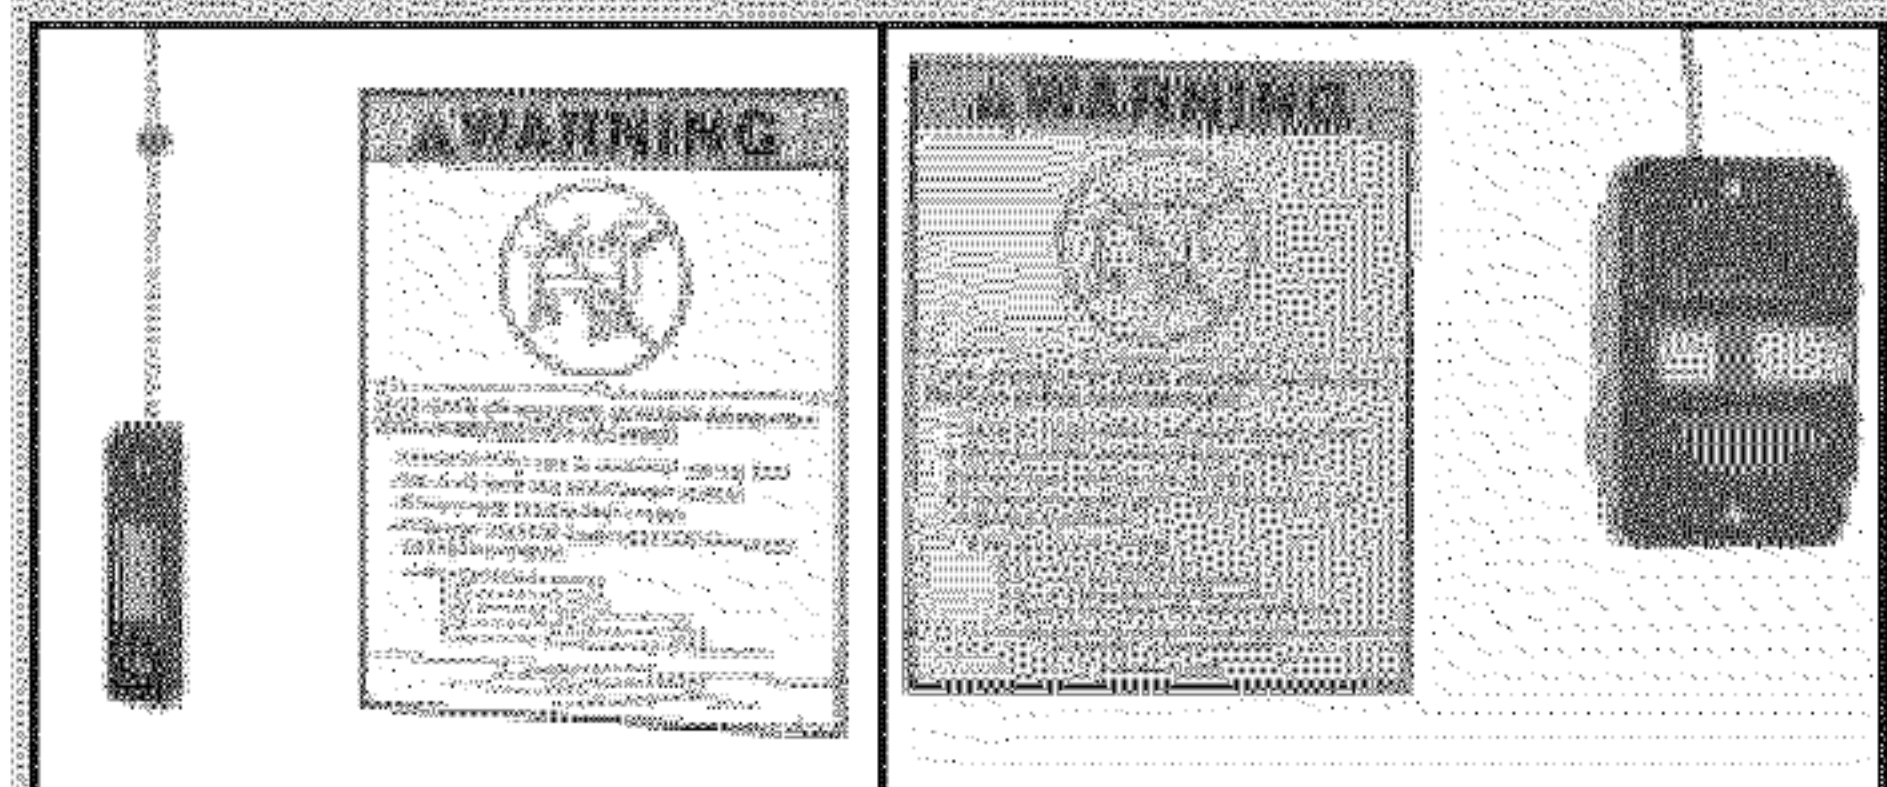

FIG. 5-4 Entrapment warning label.
- Remove protective backing from "entrapment" warning label (Fig. 5-4).